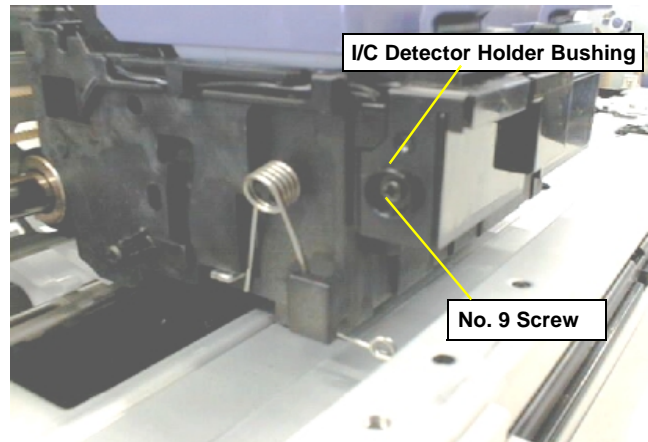

Figure 4-42. Removing the I/C Detector Holder Bushing
- 2) Remove the No. 9 screw securing the I/C Detector Holder Bushing, and remove the I/C Detector Cables which is placed in the gutter of the left side of the CR assembly. Refer to Figure 4-42.